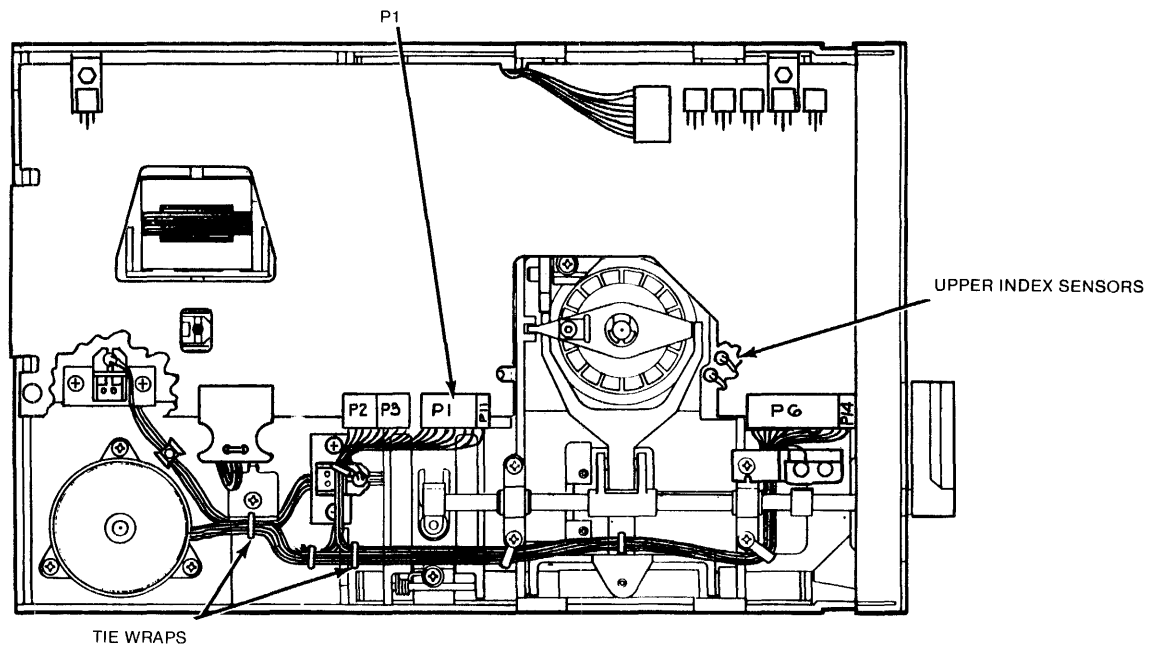

Figure 5-16
- B. Gently remove the two index L. E. D. 's from the Bridge Assembly (see Figure 5-16).
- D. Remove the two brackets that attach the Index Sensor Assembly's wires to the chassis (see Figure 5-16).
E. Cut the tie wraps along the cable harness (see Figure 5-16).